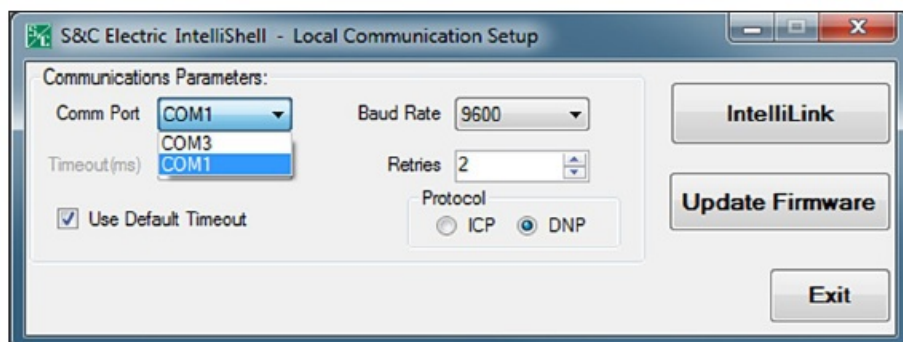

Figure 30. The S&C Electric IntelliShell—Local Communication Setup dialog box.
- **STEP 11.** Click on the Update Firmware button. See Figure 30.